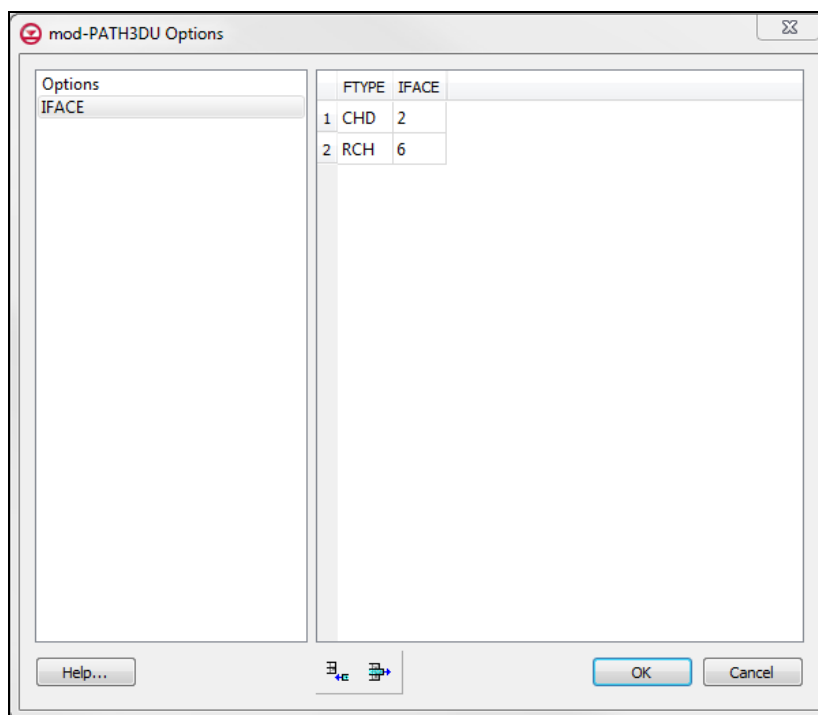

Figure 5 IFACE values.
1. Select “IFACE” from the list on the left (Figure 5).
This table (Figure 5) is how IFACE values are specified. Notice there are two rows listed in the table, one for *CHD* and one for *RCH*. The names correspond to the names found in the cell to cell flow (CCF) file. GMS adds these two items automatically with all new mod-PATH3DU simulations. If these types of boundary conditions were not being used, mod-PATH3DU would ignore the IFACE values listed in the table, so it would not be necessary to delete them.